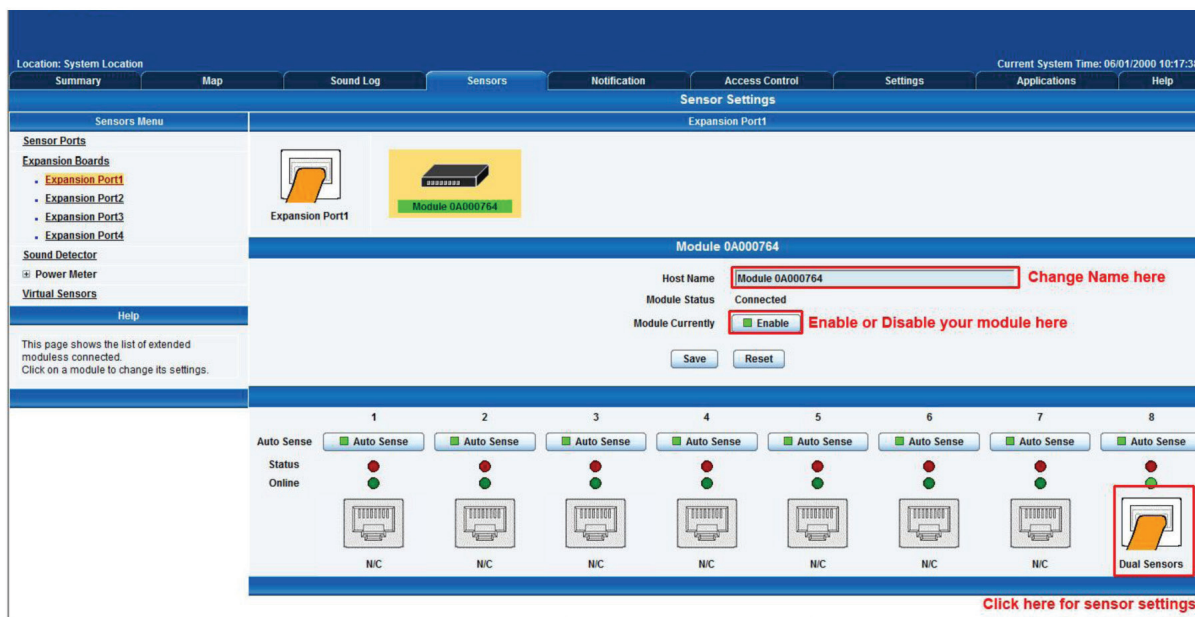

Figure 3-53. Extended Port Sensors page.
4. This will bring you to the Extended Port Sensors page (see Figure 3-53).